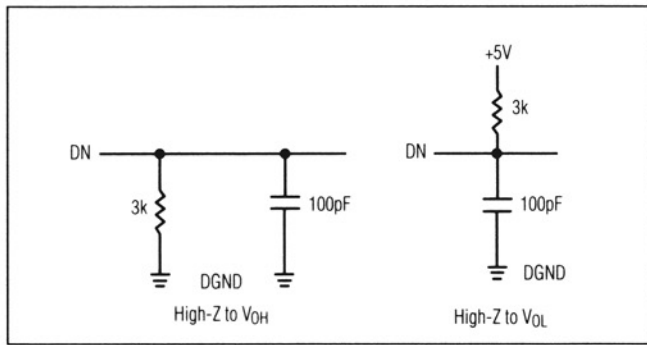

Figure 1. Load Circuits for Data-Access Timing
- Note 4:** tDV is the time required for an output to cross +0.8V or +2.4V measured with load circuit of Figure 1.